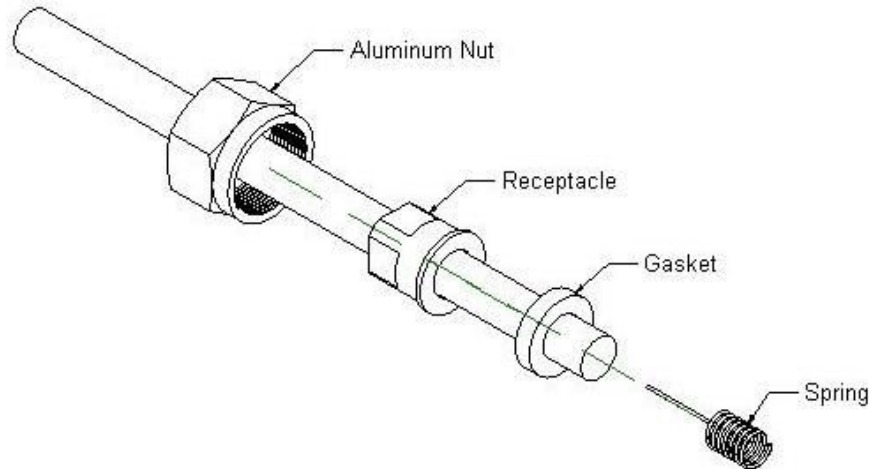

Figure 36: Spark Plug Wire Hardware Assembly
- iii. Slide the aluminum nut, receptacle, and gasket on the wire. See Figure 36 for the correct component stack-up.